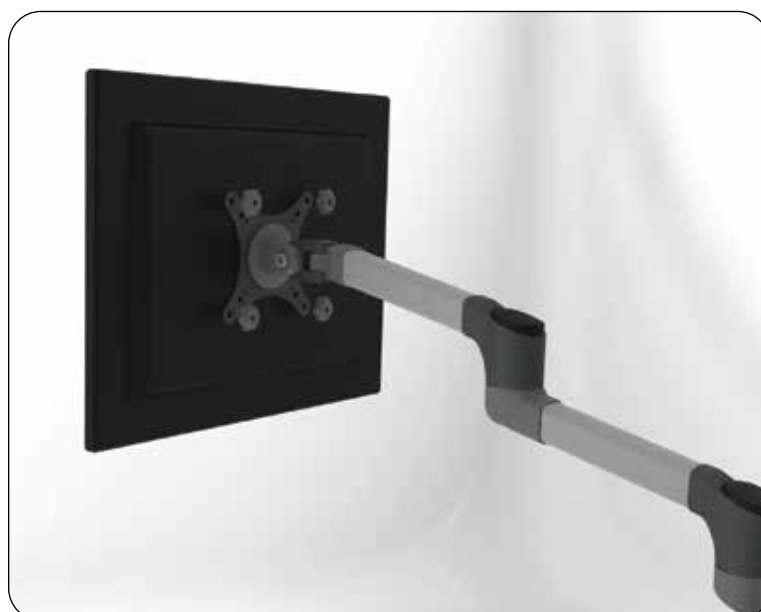

Figure 11
2. Hold Monitor flush to the VESA Bracket and secure with the provided Monitor Screws. (Figure 11).